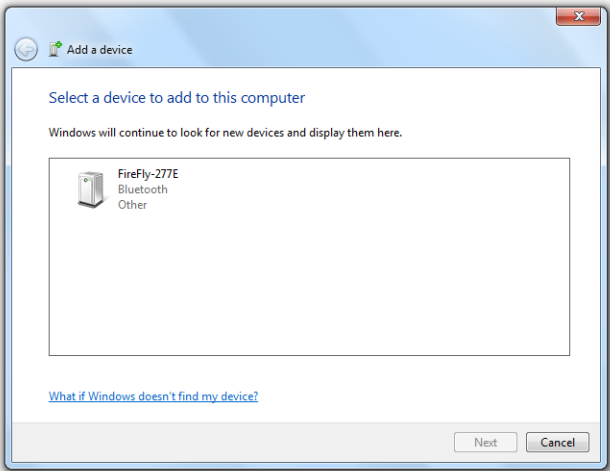

Figure 8-20. Selecting the Bluetooth Mate (FireFly) from the list of Bluetooth devices
2. Choose the FireFly or RN42 device (it might initially appear as Other), as shown Figure 8-20, and click Next. FireFly or RN42 is the name that the Bluetooth Mate uses to identify itself (because it uses a Bluetooth chip from Roving Networks' FireFly line of products).